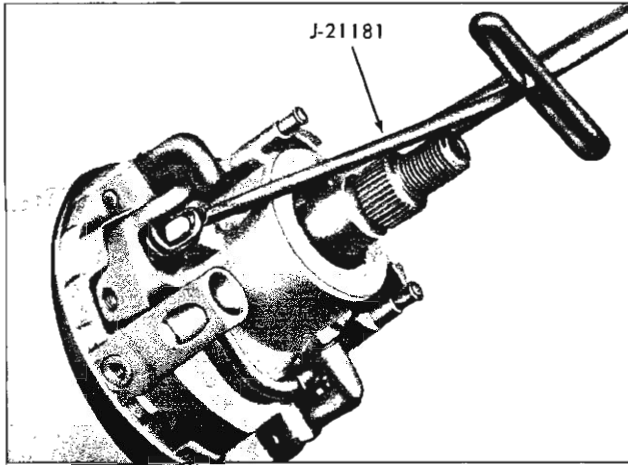

Fig. 36—Installing Return Springs
13. With the tilt wheel mechanism tilted fully "up," install the upper ends of the return springs on the actuator using Tool J-21181 and then set tilt wheel mechanism in center position (fig. 36).